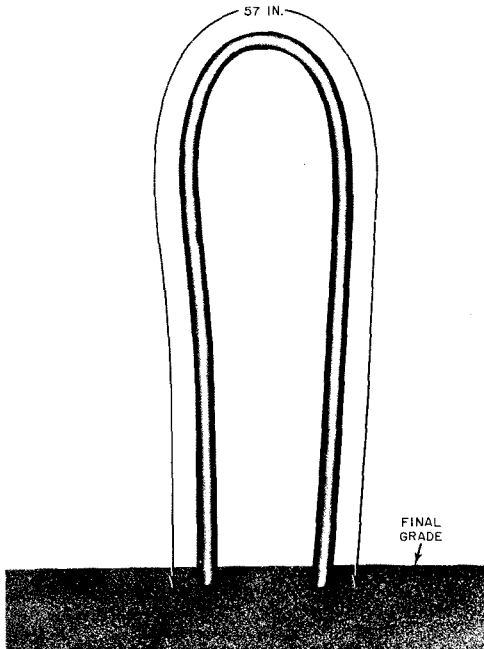

Fig. 8—Loop Length—Cable Loop Location
4.01 The cable length required for installation is shown in Fig. 8 and 9. If the closure is not placed 3 inches below grade, the cable lengths will have to be adjusted accordingly.